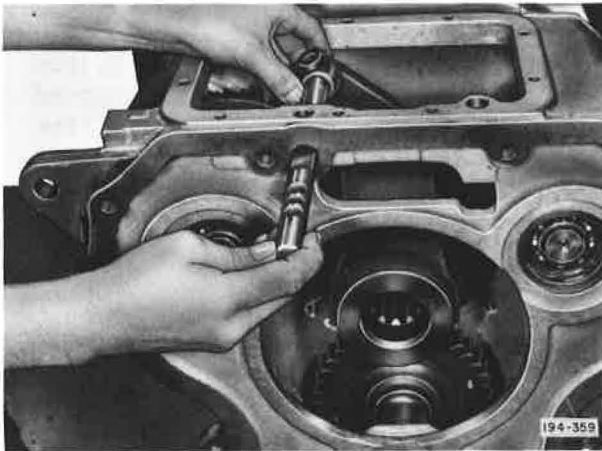

Figure 5-136. Removing Compound Shift Rail and Shifter Fork
4. Remove compound shifter fork set screw. Withdraw shift rail from case and at the same time remove shifter fork. See Figure 5-136.